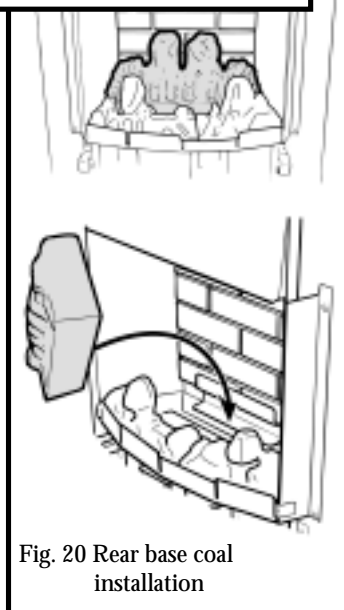

Fig. 20 Rear base coal installation
10.3 Place the rear base coal in the burner compartment behind the front coal. Its rear face should touch the rear ceramic wall (See figure 20).